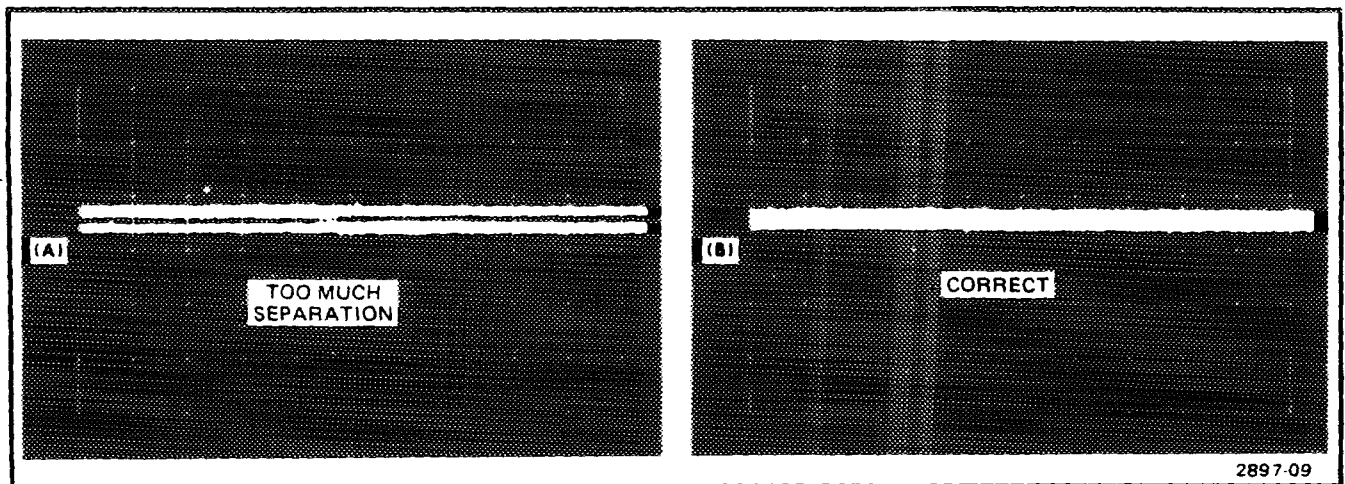

Fig. 8. Display of tangentially-measured noise (A) incorrect; dark area showing between traces. (B) correct display.
a. Adjust Calibration Generator Amplitude until two free-running traces just merge (no dark area between traces). See Fig. 8.